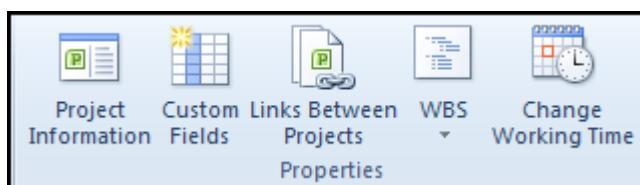

Figure 3-11: Change Working Time Button
- iii. On the tab work weeks select the default working time row and click on the details button a dialog will open(figure 3-11)